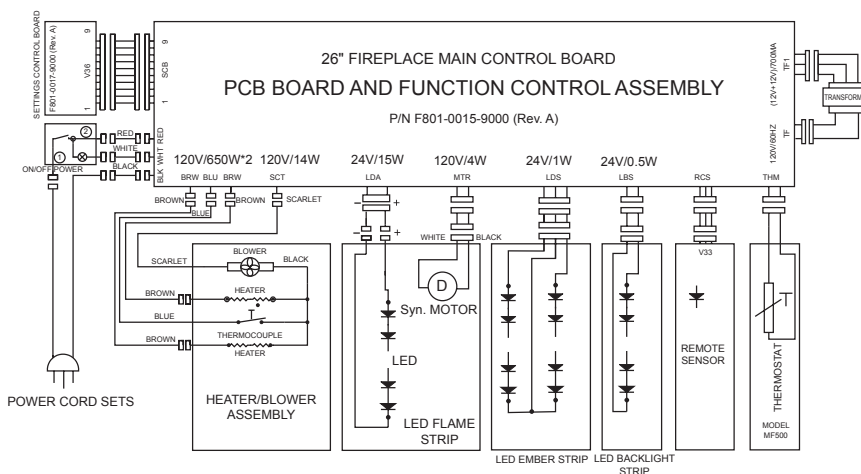

Figure 14
11. Reconnect wires to main circuit board. *Figure 14*
6. Reconnect transformer wires to control board. Refer to Wiring Diagram, *Figure 14*.
5. Reconnect wires to main control board. Refer to Wiring Diagram, *Figure 14*.
5. Connect wires to main control board. Refer to Wiring Diagram, *Figure 14*.